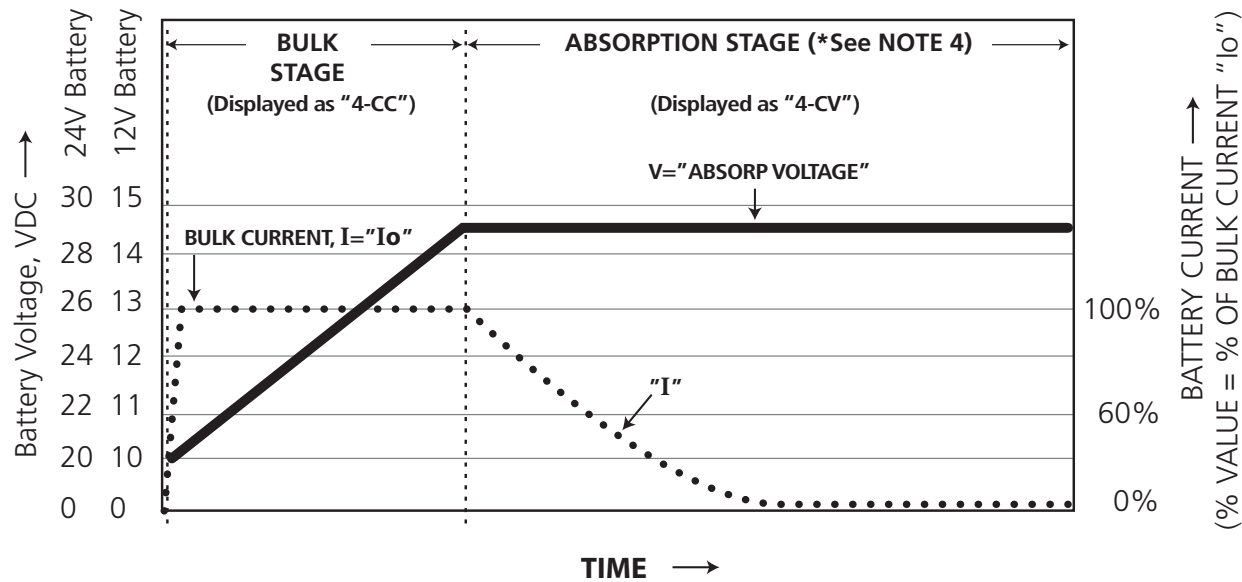

Fig 5.4 Voltage – Current (V-I) Curves for "2-Stage Type 2" Charging Profile
- 2) Option 4 = 2 Stage Type 2: Please refer to Srl. 2 of Table 5.3 for detailed description and Fig 5.4 for Voltage - Current (V-I) Curves
LEGEND for Fig 5.4
NOTES for Fig 5.4